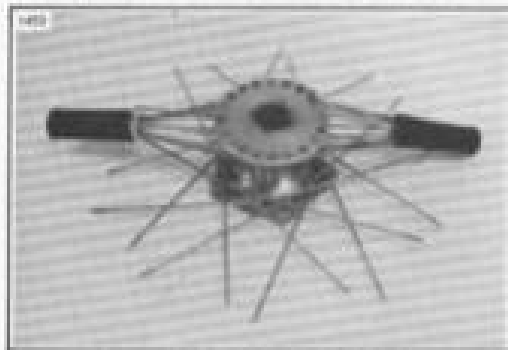

Figure 2-14B. Bundling Top Spokes
4. See Figure 2-14B. With all 40 spokes inserted in hub, group all spokes on top flange into 2 bundles. Secure each group with throttle grips or tape to keep the spokes together.